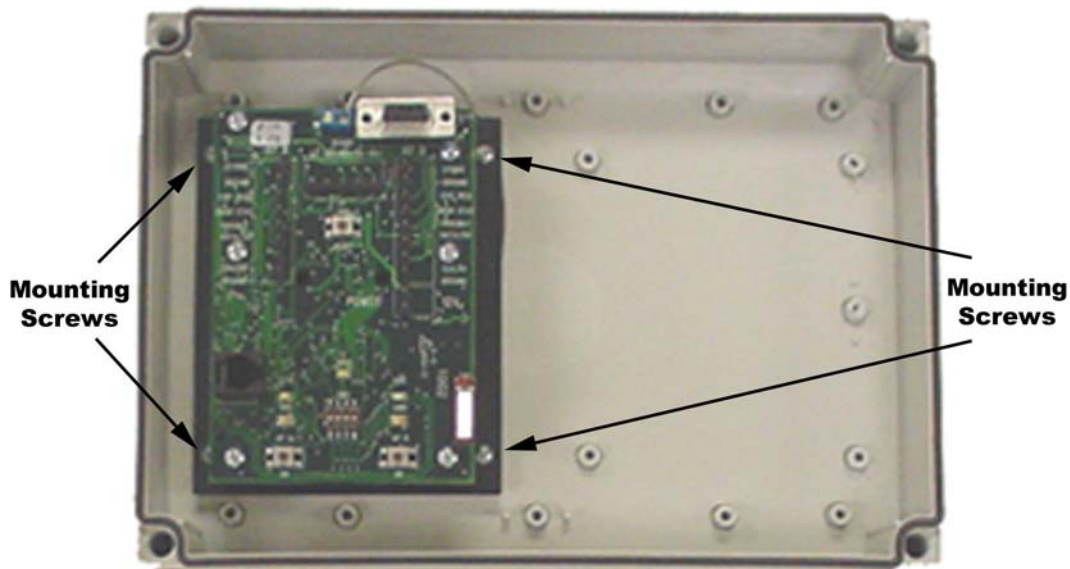

Figure 5-7 – Removing PIM PCB
- 5.7.1 Remove the PIM PCB from the PIM-OTD enclosure by removing the four screws, one in each corner of the PIM PCB back plate (Figure 5-7).
5.7.4 Replace the PIM PCB in the PIM-OTD enclosure (Figure 5-7).